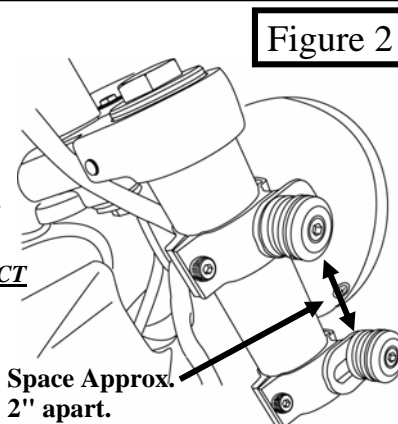

Figure 2
3. Loosely install the four Fork Clamps on the forks, approximately 2" apart. (see figure 2)